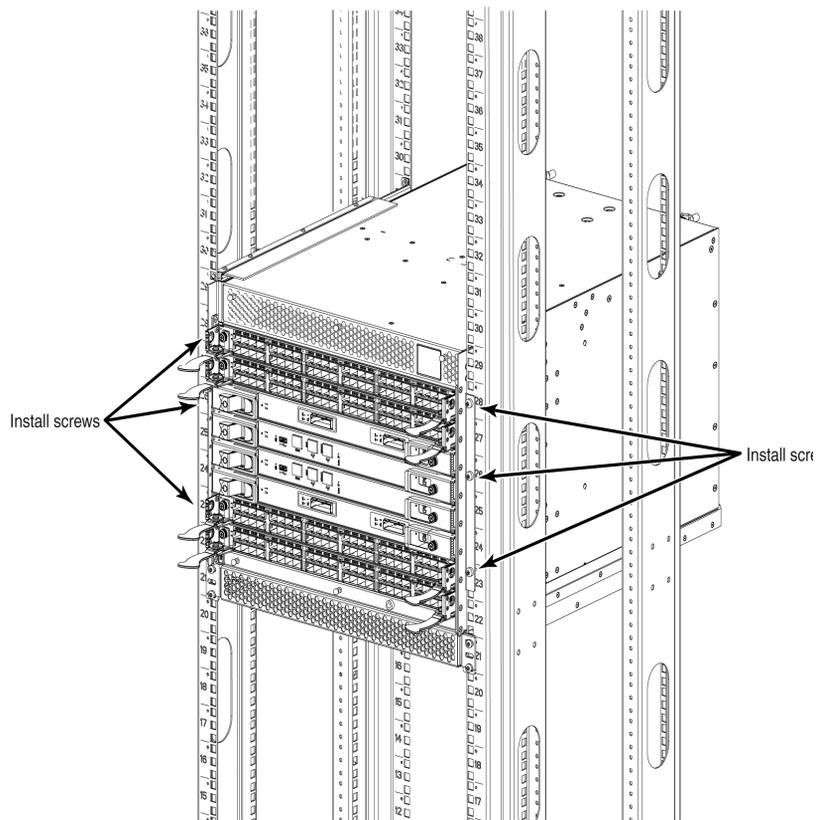

Figure 50 ED-DCX-4S-B with 18 to 24 in. (45.72 to 60.96 cm) Port-Side Exhaust Kit installed in cabinet
5. Secure the ED-DCX-4S-B to the cabinet with six 10-32 screws with washers, three screws on each side (Figure 50 on page 212). Tighten screws according to specifications under “Torque requirements” on page 204.